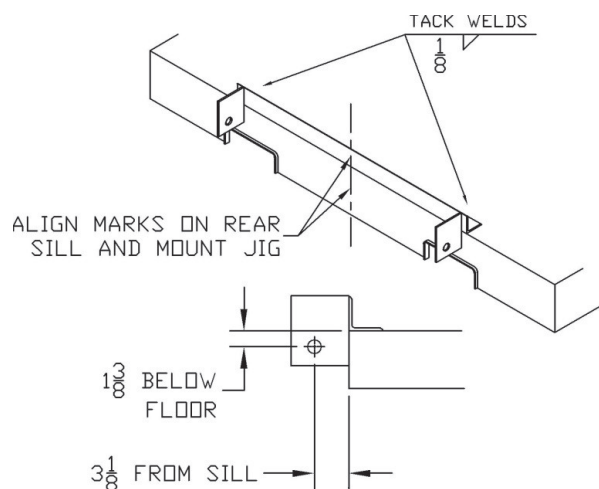

Figure 20. Fasten or spot-weld the assembly jig to the rear beam
2. Fasten or spot-weld the assembly jig to the rear beam so that each centre point aligns. Verify the 1-3/8" and 3-1/8" dimensions. See Figure 20.